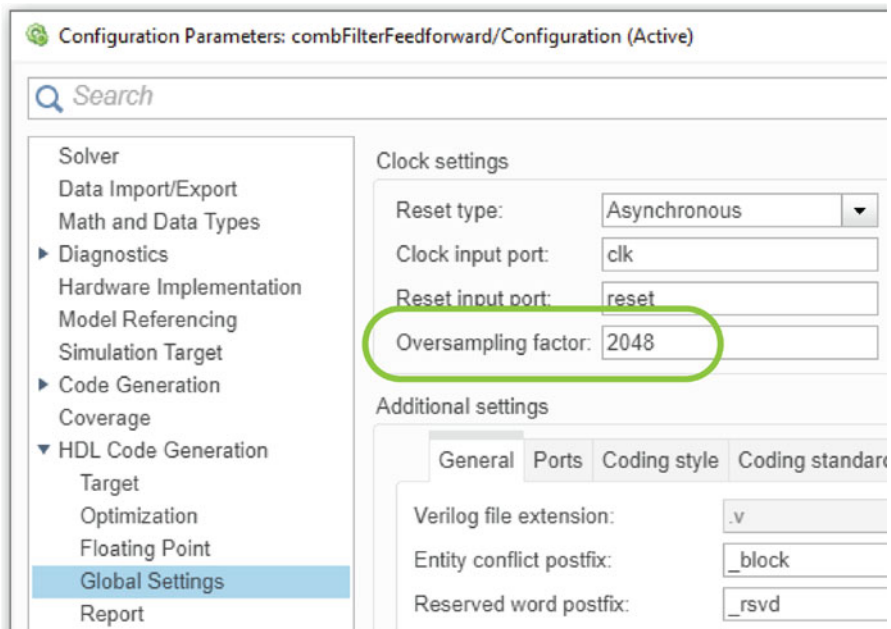

Fig. 2.13: Setting the oversampling factor to match the FPGA clock frequency
Step 2: Select *Global Settings* under *HDL Code Generation* as seen in Fig. 2.13.